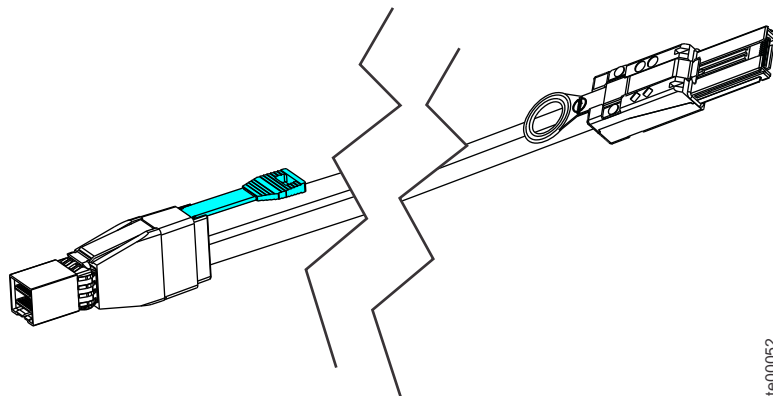

Figure 32. Mini SAS HD to Mini SAS cable
- Mini SAS HD to Mini SAS (Figure 32)